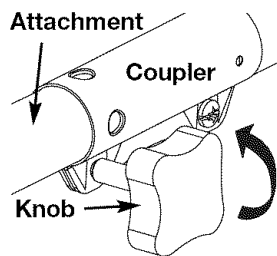

Fig. 8
2. Turn the knob counterclockwise to loosen the coupler (Fig. 8).